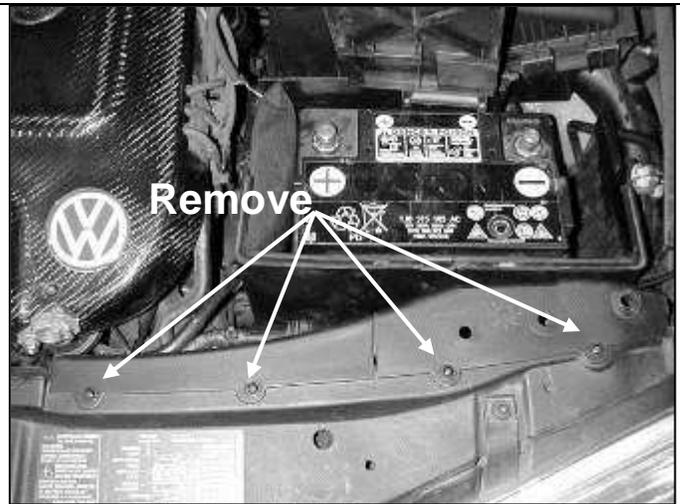

Fig. 2
- b. Remove the four screws along the top of the radiator support. (Fig. 2) Remove the two plastic covers.